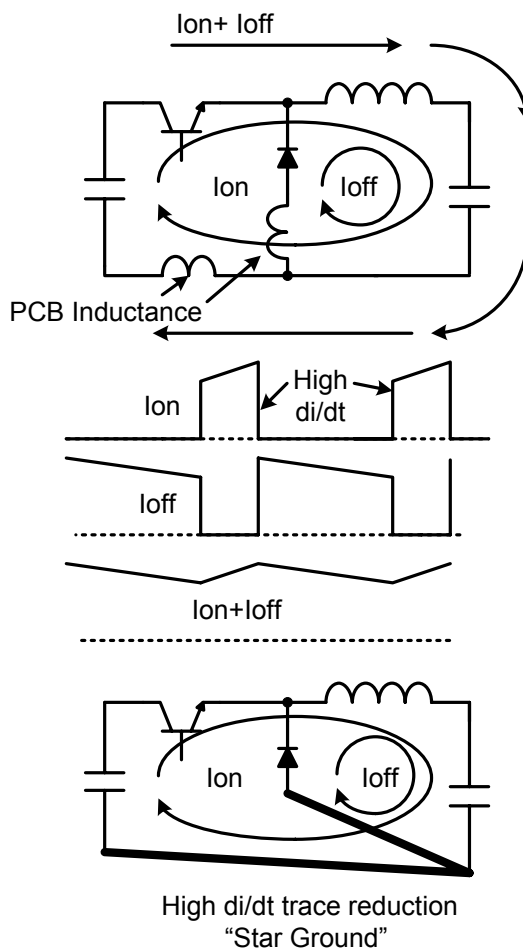

Figure 1. Step Down Converter Layout
5. Ground. The most quiet ground or return potential available is the output capacitor return. The inductor current flows through the output capacitor during both the on time and off time, hence it never sees a high di/dt. The only di/dt seen by the output capacitor is the inductor ripple current which is much less than the di/dt of an edge to a square wave current pulse. This is the best place to make a solid connection to the IC ground and input capacitor. This node is used as the star ground shown in Figure 1. This method of grounding helps to reduce high di/dt traces, and the detrimental effect associated with them, in a step-down converter. The inductance of these traces should always be minimized by using wide traces, ground planes, and proper component placement.